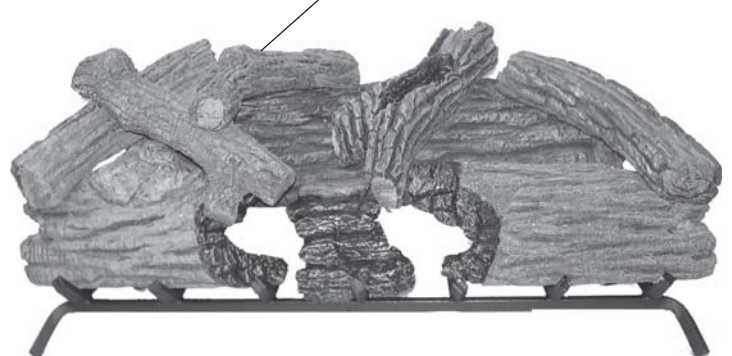

Figure 43 - Installing Top Left Log (#9)
10. Install top left log #9. See Figure 43.